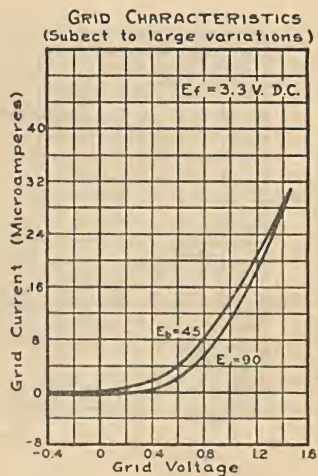

Fig. 2
**Grid Characteristics**—Fig. 2 shows the relation between grid current and grid voltage.